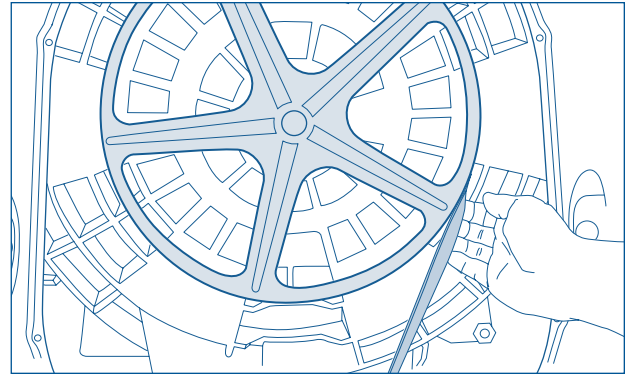

Figure 4-48.
2. Remove the belt by turning tub drive pulley and rolling belt off pulley. The belt is elastic and is designed to "give" enough to remove and install in this manner. (See Figure 4-48)